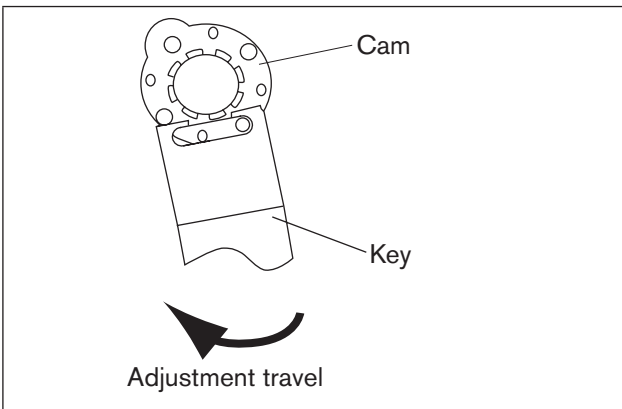
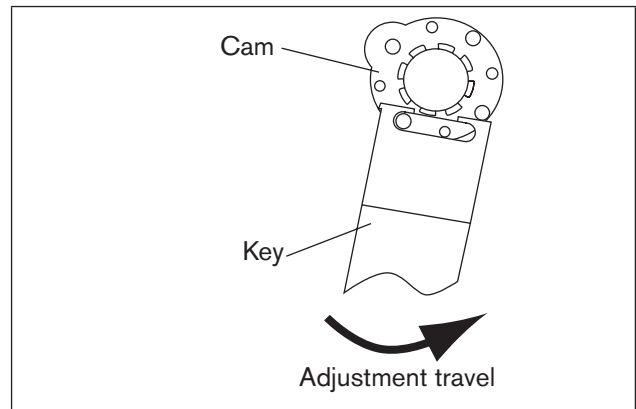

Figure 12: Adjusting limit switch clockwise
Figure 13: Adjusting limit switch anti-clockwise
- Adjust the two upper cams with a suitable key (see “Figure 12” and “Figure 13”).